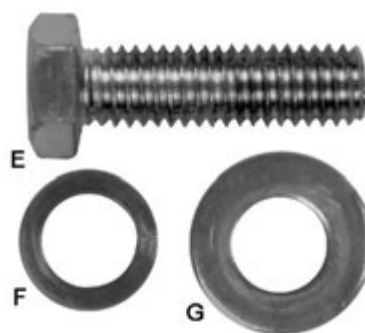

Figure 5
1. Remove *shipping bracket* (A) securing the *motor* (C) to table.
2. After the shipping bracket has been removed, install the screw (B) back into the motor support bracket. The upper screws will be used to later to hold the extension wing in place.
3. Remove *shipping bracket* (D) holding *switch assembly* (E) to table. Do not discard the bracket (D); it will be used to install the switch.
4. Remove the remaining *hex cap screw*, *lock washer*, and *flat washer* (F and Fig. 5) in the table edge.
5. Install *motor cover* (G) by aligning the *pins* (H) on the cover with *brackets* on the cabinet.
6. Fasten cover by pulling out the *latch* (J), closing the door, and releasing the latch.
- **Hardware:** (6) 7/16"x1-1/2" Hex Cap Bolts, (6) 7/16" Lock Washers, (6) 7/16" Flat Washers & (2) Extension Wings
1. Attach the left *extension wing* (A) to the *table* (B) with three each *hex cap screws* (E), *lock washers* (F) and *flat washers* (G). Snug so the extension wing can still be manually adjusted but do not tighten.
2. Adjust the extension wing horizontally so the front edge is flush with the front edge of the saw table (C). Then, using the straightedge as reference, adjust vertically so the tops of the extension wing and saw table are flush.
4. Remove the mounting hardware (Fig. 5) from the table on the right side; then attach the right extension wing in the same manner.